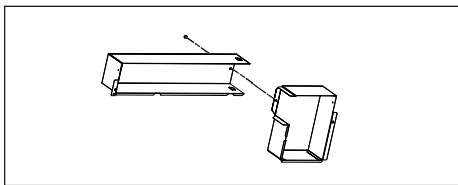

Figure 2
- B. Assemble top duct as shown in Figures 2, 3 and 4.